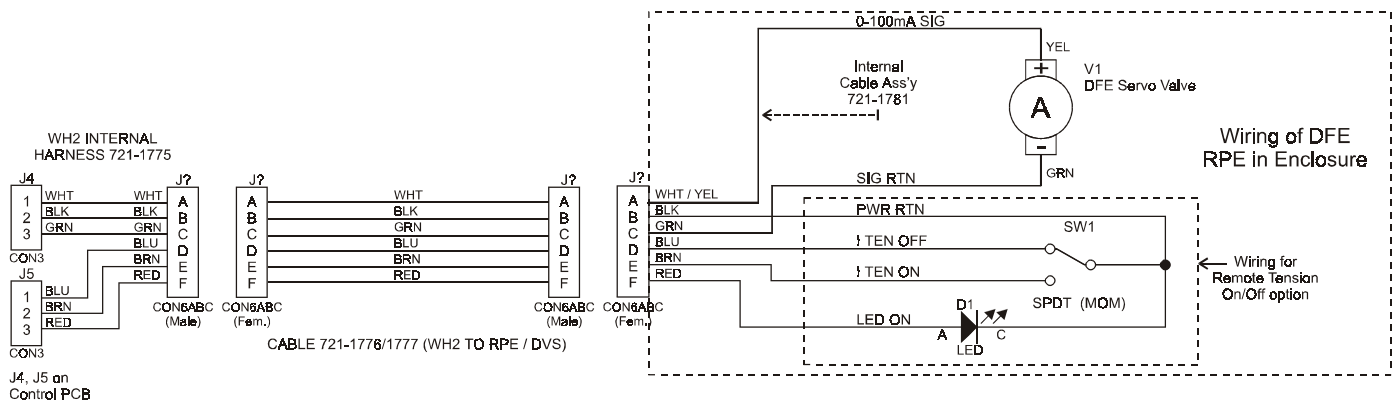

Figure 22 - REMOTE PNEUMATIC CONNECTIONS
- a. Make sure the pneumatic unit is mounted securely and that the connecting cable is attached to both the controller and the pneumatic unit as specified in section 2.3.2. See electrical connections in Figure 22.